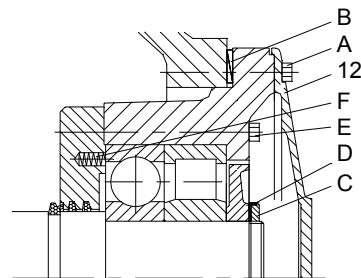
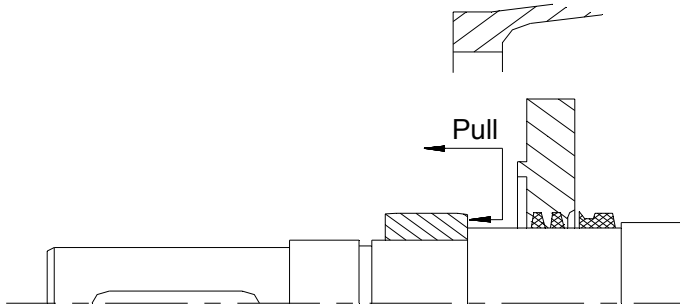

Fig. 2
Fig. 5
1.1.2 - Disassembly of Rear Bearing (referring to fig. 2)
Because of the bearings of TRVK 3503 to 5003 and TRSK 3505 to 5005 have large magnitude of interference, it may be difficult to remove in the manner stated in fig. 2 and 3. It is recommended that both the front and rear bearing are to be dismantled to the extent as shown in the fig. 5 and 6 and then the bearing inner face will act as bearing point to enable the bearings to be pressed out. Refer to the reference books for the methods of disassembly of bearings.